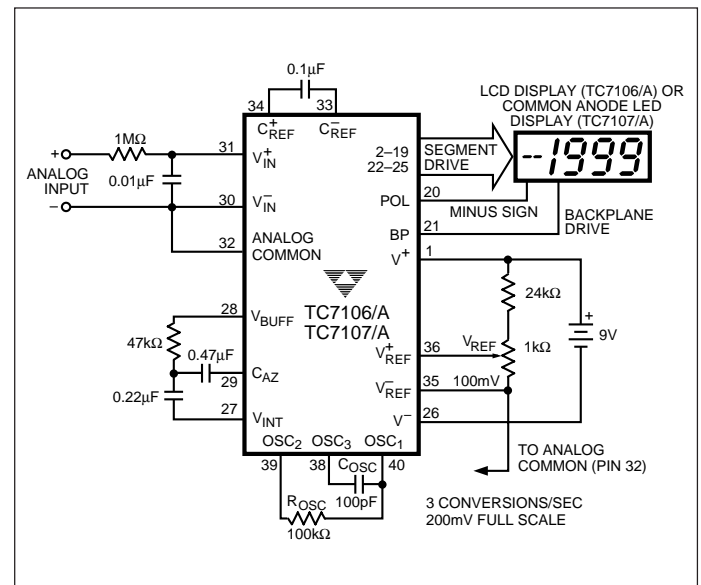

Figure 1. TC7106/A/7/A Typical Operating Circuit
3. Unless otherwise noted, specifications apply to both the TC7106/A and TC7107/A at T_A = 25°C, f_{CLOCK} = 48 kHz. Parts are tested in the circuit of Figure 1.